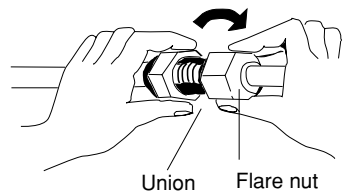

Fig. 4-5
- (3) For proper connection, align the union tube and flare tube straight with each other, then screw in the flare nut lightly at first to obtain a smooth match. (Fig. 4-5)